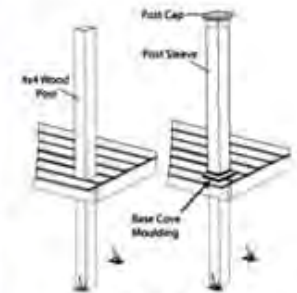

Figure 1
5. After decking is installed, slide post sleeve over the wood 4x4 (Fig. 1).
Note: Once posts and/or post sleeves are installed, ensure they are plumb and level. Prior to fastening any sections to the posts, install Base Cove Moulding for a finished look (Fig. 1); Base Cove Moulding may not be installed after sections are attached to posts.